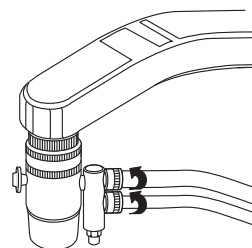

Fig. 9
4. **Screw** the nuts onto the barbs and **hand tighten** (Fig. 9). Use the tie straps to **secure** the tubing to the faucet.